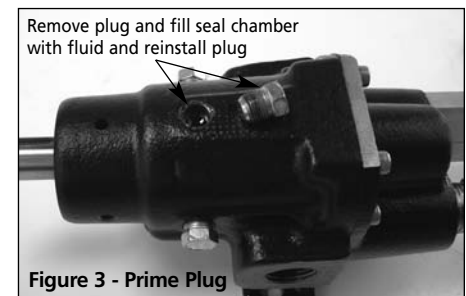

Figure 3 - Prime Plug
1. All pumps must be primed before start-up and the seal chamber needs to be filled (See Figure 3). Never operate a pump unless it is secured to a solid foundation and all safety shields are installed.
- a. For fluids with viscosities less than 2000 SSU, a flush is not necessary, but the seal cavity must be pre-filled with either the operating fluid or a neutral fluid. This is to ensure seal cooling and lubrication during start-up (See Figure 3).